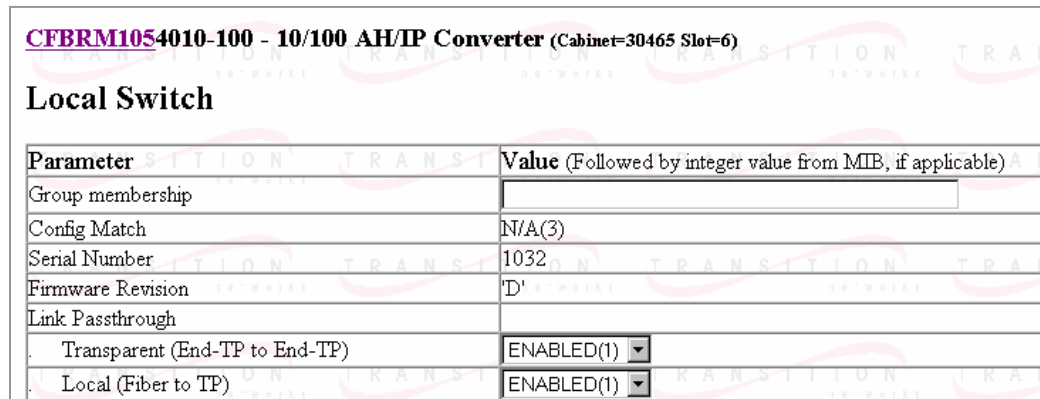

Figure 53: Local Switch Configuration Screen
7.	Click the VIEW button of the CFBRM/CBFFG Device to bring up the local switch management screen. See Figure 53.